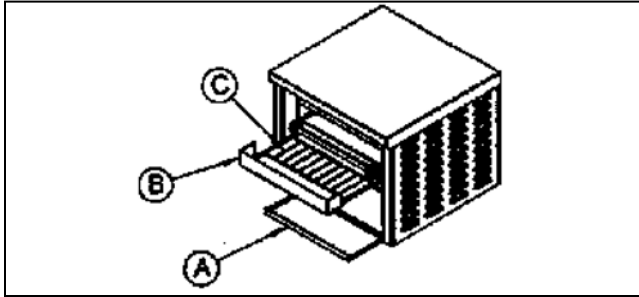

Figure 1
1. Check Contents - refer to Figure 1, account for the following parts: